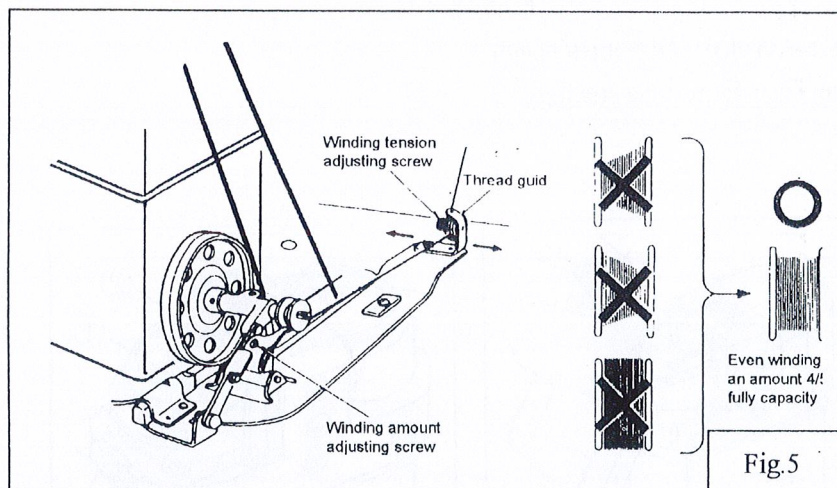

Fig.5
2. How to wind the lower thread (Fig.5):